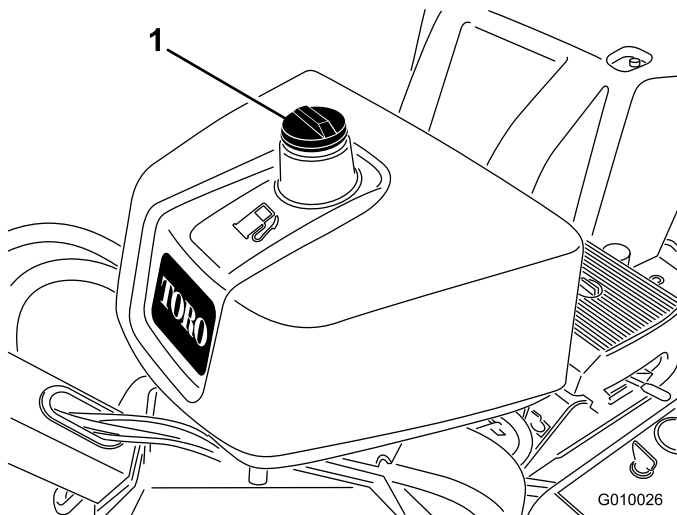

Figure 15
2. Clean around the fuel tank cap and remove it (Figure 15).